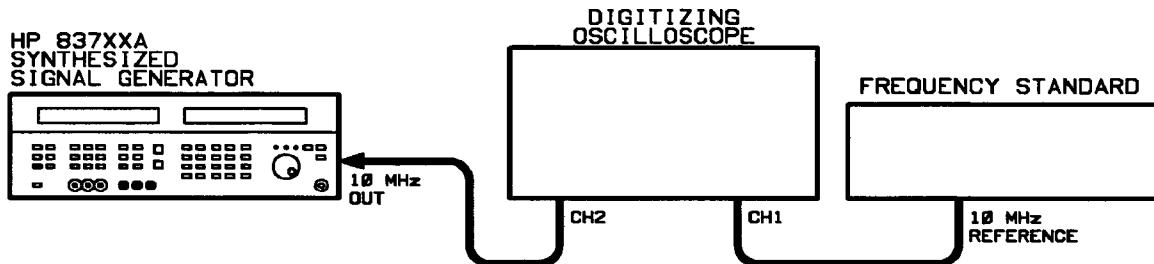

Figure 3-1. Internal Timebase Aging Rate Test Equipment Setup
1. Connect the equipment as shown in Figure 3-1.